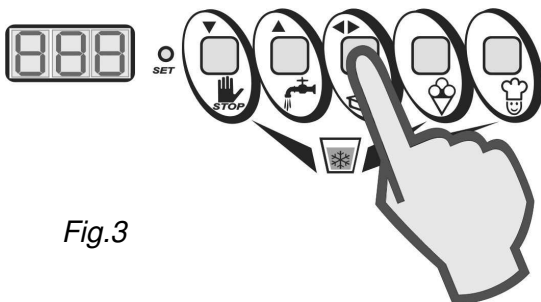

Fig.3
- Subsequently, press the Conferma (Confirm) (◀▶) key to start a new slush production cycle (Fig. 3).